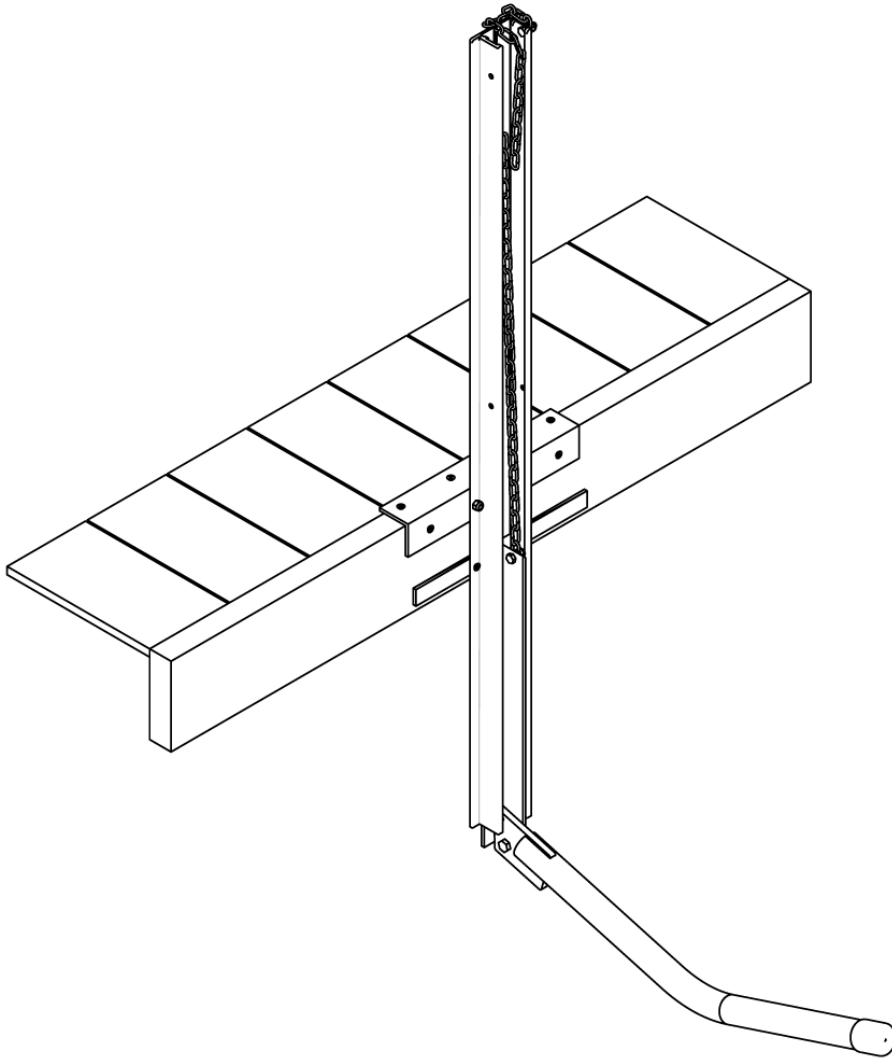

FIGURE 2
- Place the assembled KayaArm onto the edge of dock and fasten it to the dock using 4 deck screws (not provided) into the top surface of the angle (4). Fit the cedar shims into the approximately 1/4" space between the back of the mast and the vertical surface of the dock (see Figure 2) at a location directly behind the lower holes in the mast flanges. HINT: Push the tapered shims simultaneously one from each side of the mast and one in front of the other, into the space behind the mast to a distance where this space is filled when the mast is vertical. Install 2 deck screws (not provided) into the lower flange holes. Optionally install more deck screws through additional holes provided in angle (4).
- The KayaArm mounted as above on a dock is functional to a water level about 30" below the top of the dock. For water levels below that you may attach the KayaArm to the side of a ladder with two bolts (not provided) through holes provided in the mast (1). See photos on our website under "Additional Mounting and Use /instructions".